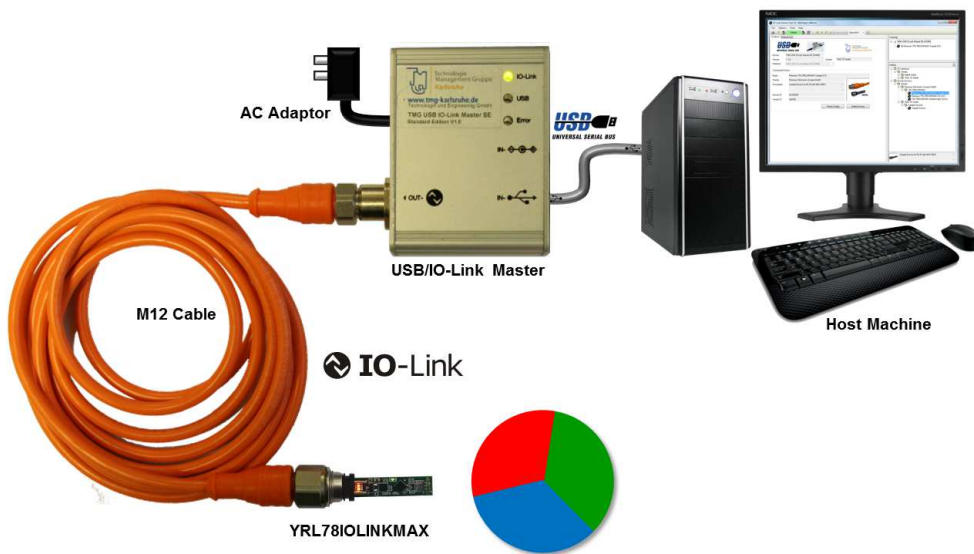

Figure 3-1.YRL78IOLINKMAX Ambient light sensor demo setup
- Connect the IO-Link Master to the host computer. The *YRL78IOLINKMAX* board should be now connected to the Master via the M12 cable see Figure 3-1.